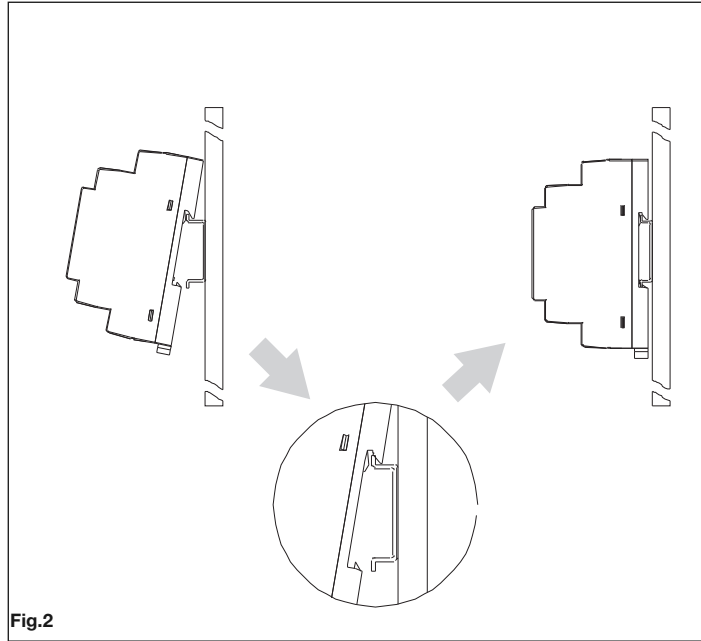

Fig.2
**Snap on support rail** (See Fig. 2)